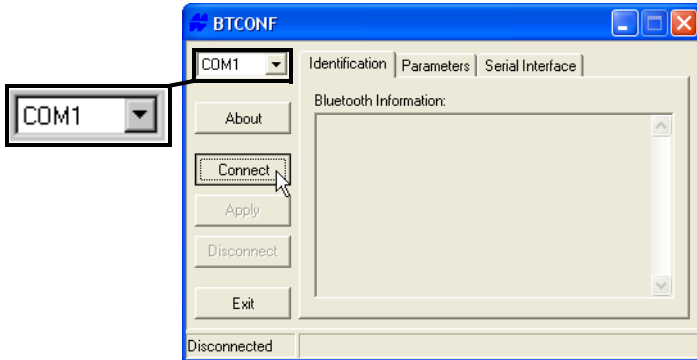

Figure 2-14. Select Communication Port and Click Connect
4. From the drop-down list in the upper left corner, select the computer serial port (usually COM1) used for communication (Figure 2-14).